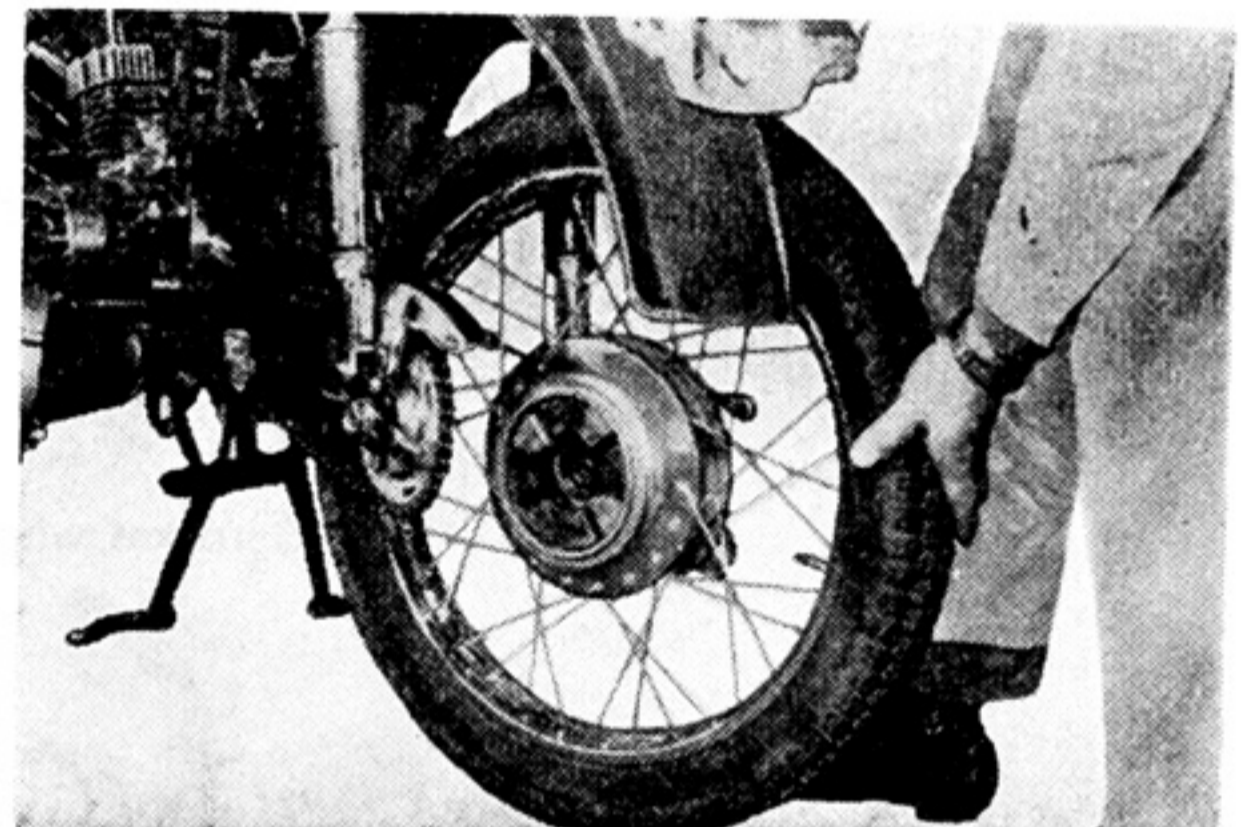

Fig. 4-2-8
d. Remove the rear wheel ass'y. (Fig. 4-2-8)